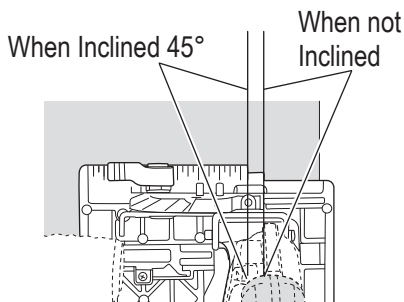
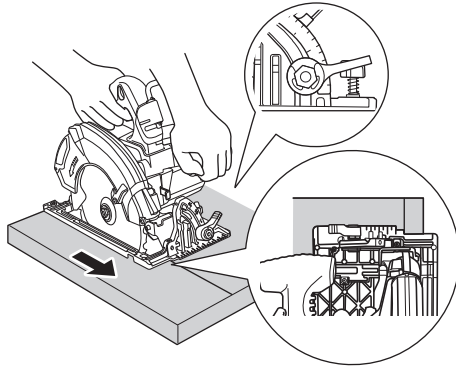

Fig. 27
Fig. 28
- (1) Place the base on the material, then align the premarked line and the saw blade with the notch at the front of the base (**Fig. 27**).
- (2) When the base is not inclined, use the right side of the notch (**Fig. 27** on page 71, **Fig. 28**). If the base is inclined (45 degrees), use the left side of the notch (**Fig. 27** on page 71, **Fig. 29**).
- (4) Tilt saw forward and align the notch (**Fig. 27** on page 71) with the pre-marked guide line.
- (5) Release the lever. When the lower guard contacts the work piece surface, it will be in proper position to open freely when cutting is commenced.
- (6) Holding the saw in position, with the blade not contacting the work piece surface, pull the trigger.
- (7) After the saw has reached full speed, gradually lower rear end of the saw until its base rests on the work surface.
- (8) Advance saw along the cutting line up to the corner.
- (9) Release trigger and allow blade to stop completely before withdrawing the blade from the work piece.
- (10) Use a jig saw or hand saw to cut the corners out clean.
- (11) When starting each new cut, repeat as above.